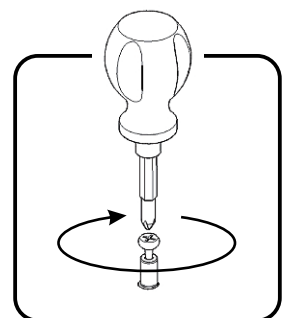

Figure 1
Insert Cam Lock Screws into pre-drilled holes in Top (A), Side Panels (B), (E), Back Rails (F), (G) and Front Uprights (J), (K), then tighten. (See Figure 1)